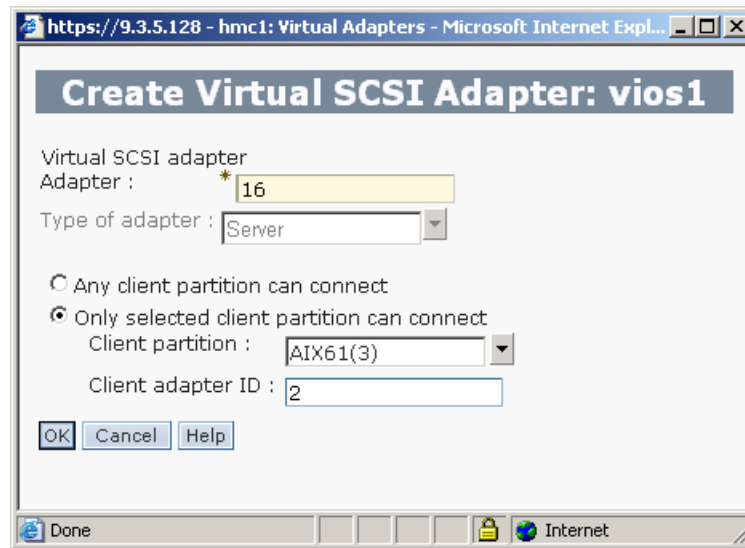

Figure 12-19 Virtual SCSI adapter properties
4. Figure 12-19 shows the window after you select **SCSI Adapter**. Type the slot adapter number of the new virtual SCSI being created, then select whether this new SCSI adapter can be accessed by any client partition or only by a specific one. In this case, as an example, only the SCSI client adapter in slot 2 of the AIX61 partition is allowed to access it.